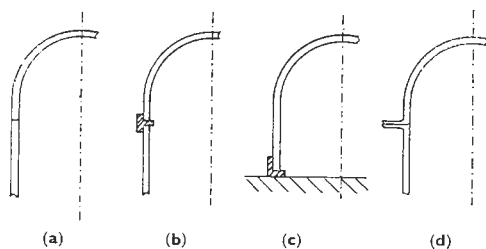

Fig 1
Firstly then to study the stress and how it is built up: Fig. 1 (a) indicates a domed tube that
has been cut and both surfaces faced. If this is subjected to vacuum it will withstand the stress that an uncut tube will withstand, all the thrust being in the line of the wall; from a vacuum holding point of view the joint face is small, and a rubber gasket may be employed as in (b), or on a flat plate as in (c). Reverting therefore to the all-glass requirement, it is accepted by experience that a width of joint-face of about 20mm is required, and we say we will make the flange of the form (d), Fig. 1. In ideal conditions this might work; the line of thrust is in the line of the tubing wall, and the necessary width of face for a good joint is there. Unfortunately several points need to be considered; the thrust due to vacuum on a 75mm bore joint is about 55kg, (105lb), and on a 100mm joint about 85kg (185lb). Thus, if (1) the flanges are at all out of flat, or (2) if a piece of grit is trapped, or (3) the grease does not spread as quickly as the vacuum builds up, very great local stresses will be set up and fracture can occur. Thus it is seen that there is a need for thickness of construction to accompany the width of joint face.